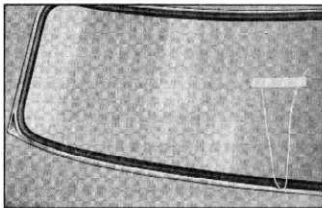

Fig. 20—Cord in Pinch-Weld Cavity
- Insert a strong cord into the pinch-weld flange cavity of the rubber channel, tie cord ends at bottom center of assembly and tape ends to windshield glass (fig. 20).